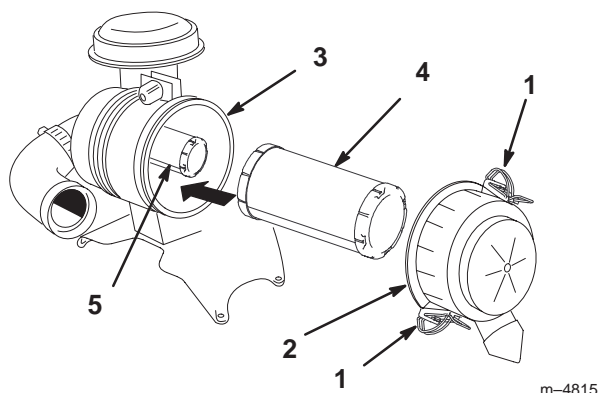

Figure 28
3. Release the latches on the air cleaner and pull the air cleaner cover off of the air cleaner body (Fig. 28).
5. Gently slide the main filter out of the air cleaner body (Fig. 28). Avoid knocking the filter into the side of the body.
2. If the safety filter is being replaced, carefully slide it into the filter body (Fig. 28).
3. Carefully slide the primary filter over the safety filter (Fig. 28). Ensure that it is fully seated by pushing on the outer rim of the filter while installing it.
4. Install the air cleaner cover with the side indicated as **UP** facing up and secure the latches (Fig. 28).